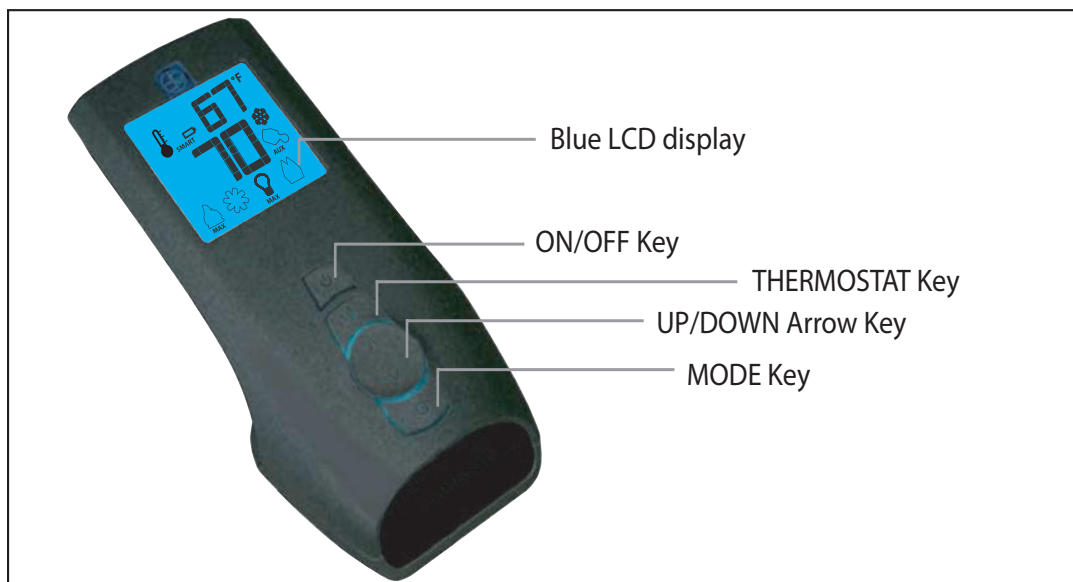
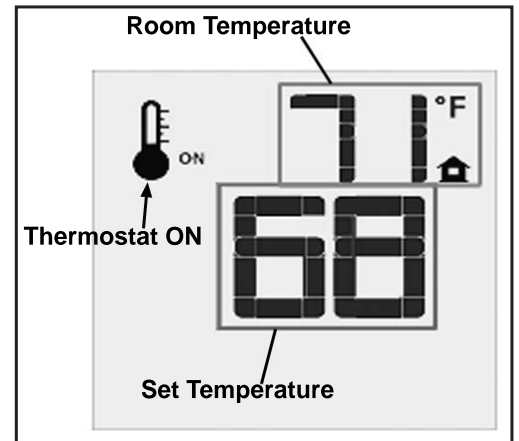
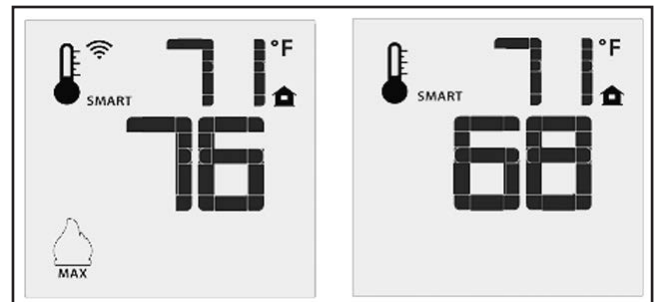
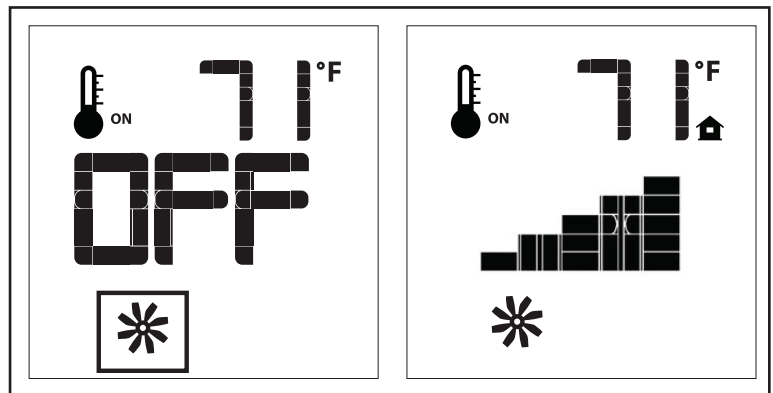

Figure 5: Proflame 2 Transmitter.
Figure 9: Remote Control Displays Set Temperature.
Figure 10: Remote Control's Smart Flame Function.
Figure 12: Fan Control
The Proflame 2 Transmitter is a remote control with a blue backlit LCD display. It uses a streamline design with a simple button layout and informative LCD readout (Figure 5). The Transmitter is powered by three (3) AAA type batteries. A Mode Key is provided to Index between the features and a Thermostat Key is used to turn on/off or index through Thermostat functions (Figure 5 & 6).
Press the ON/OFF Key on the Transmitter. The Transmitter LCD display will only show the room temperature and Icon (see Figure 9). A single “beep” from the IFC confirms reception of the command and both the pilot light (if the unit is not set to continuous pilot) and main burner will turn off.
The Remote Control can operate as a room thermostat. The thermostat can be set to a desired temperature to control the comfort level in a room. To activate this function, press the Thermostat Key (see Figure 5). The LCD display on the Transmitter will change to show that the room thermostat is “ON” and the set temperature is now displayed (see Figure 9). To adjust the set temperature, press the Up or Down Arrow Keys until the desired set temperature is displayed on the LCD screen of the Transmitter.
The Smart Thermostat function adjusts the flame height in accordance to the difference between the set point temperature and the actual room temperatures. As the room temperature gets closer to the set point the Smart Function will modulate the flame down. To activate this function, press the Thermostat Key (Figure 5) until the word “SMART” appears to the right of the temperature bulb graphic (Figure 10). To adjust the set temperature, press the Up or Down Arrow Keys until the desired set temperature is displayed on the LCD screen of the Transmitter.
The E44 comes with a convection fan that can be controlled with the Transmitter. The fan speed can be adjusted through six (6) speeds. To control the fan press the MODE key (Figure 5) to index to the fan control icon (Figure 12). Use the UP/DOWN arrow keys to turn on, off, or adjust the fan speed (Figure 12). A single beep from the IFC will confirm the command has been received.